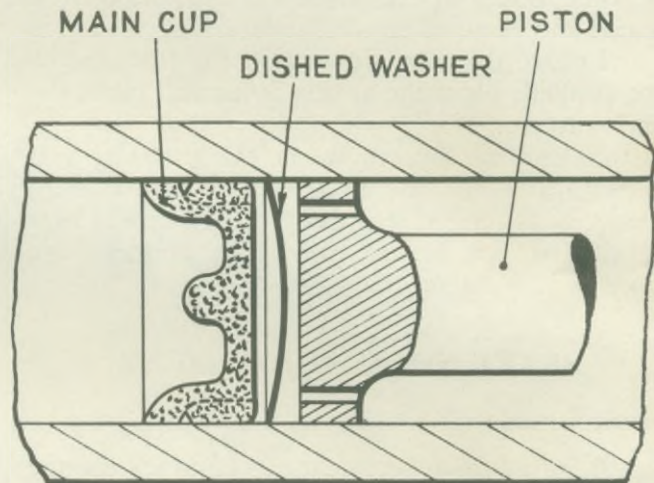

Fig. 2 Method of assembling dished washer between main cup and piston.
Directly in front of the main rubber cup (M) when the system is at rest, is a by-pass port (X) which ensures that the system is maintained full of fluid at all times, and allows full compensation for expansion or contraction of the fluid to change of temperature. It also serves to release additional fluid drawn into the cylinder from the annular space formed by the reduced skirt of the piston (L), through the small holes in the piston head, as a result of the vacuum created by the rapid return of the piston after each brake application; a dished washer is interposed between the rubber cup and the piston face to prevent the adhesion of one to the other (See Fig. 2). If the aforementioned additional fluid is not released to the fluid reservoir through the by-pass port due, either to the hole being covered by the main cup as a result of incorrect pedal adjustment, or to the hole being choked by foreign matter, pressure will build up in the system and all brakes will drag.
1. Ensure that the by-pass port (X) in the cylinder barrel is clear by probing with a piece of wire of 23 S.W.G. or smaller; access to the port is through the filler cap orifice.
3. Fit the secondary cup (K) on the piston (L) so that the lip of the cup faces the piston head. Work the cup gently round the groove with the fingers to ensure that it is properly seated.
4. Place the rubber washer (R) in position in the bottom of the cylinder bore. Fit the rubber cup (P) in the metal body (Q) and assemble the body on the larger end of the return spring (O). Assemble the retainer (N) on the smaller end of the return spring and insert the assembly in the cylinder so that the valve body is in contact with the rubber washer.
5. Insert the main cup (M) in the cylinder, lip foremost, taking care not to damage or turn back the lip, and follow up with the dished washer (See Fig. 2).
6. Press the piston (L) into the cylinder taking care not to damage or turn back the lip of the secondary cup (K). Insert the piston stop (J) and fit the circlip (H) ensuring that it beds evenly in its groove.
Dismantling. (See Fig. 2)